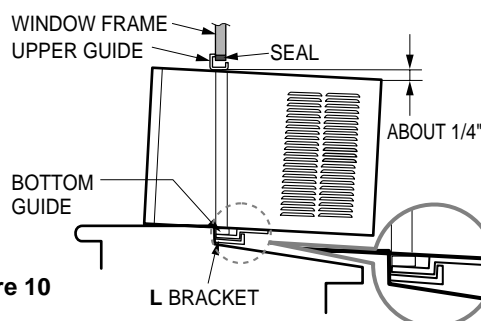

Figure 10
- b. While steadying the air conditioner, carefully bring the window sash down behind the upper guide of the air conditioner, as shown in Figure. 10.